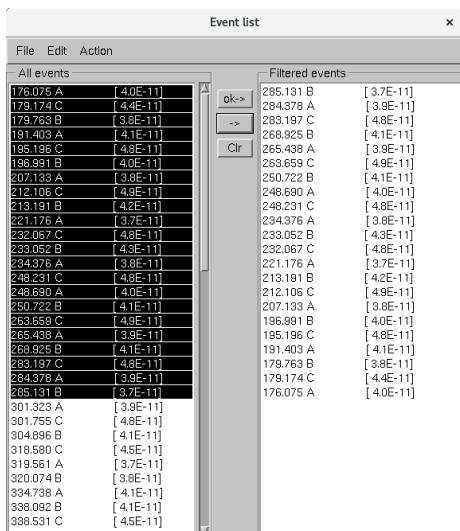

Figure 69: Transfer classified events to Filtered events list.
- Review the events and move the good events into the filtered events in Event lists one by one or by selecting a list them, then press **->** (Figure 69).